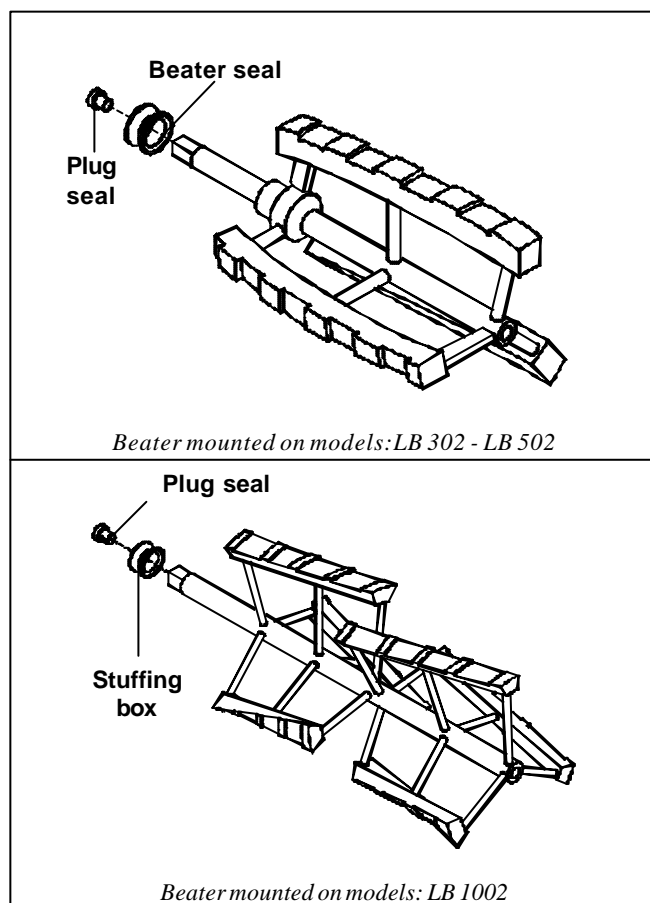

Figure 27
- Remove the rear plug seal then remove the beater lip seal from its seat on the beater shaft (ref Fig. 27).